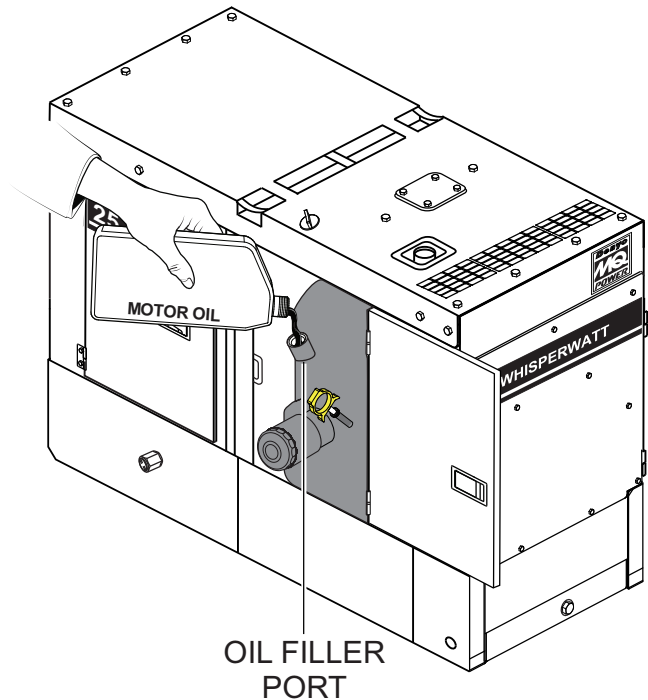

Figure 29. Engine Oil Filler Port
5. If the engine oil level is low (Figure 28C), remove the cap from the oil filler port (Figure 29) and fill to a safe operating level (max) as indicated by the dipstick (Figure 28A). Fill with recommended type oil as listed in Table 11. Maximum oil capacity is 11.2 quarts (10.5 liters).